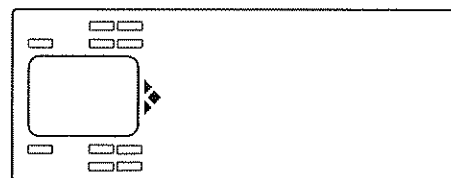

Figure 5-2
3. Press the front or rear button to select the front, back or both sections for the system to monitor. The section that is not selected will drop from the screen (see Figure 5-2 and 5-3).